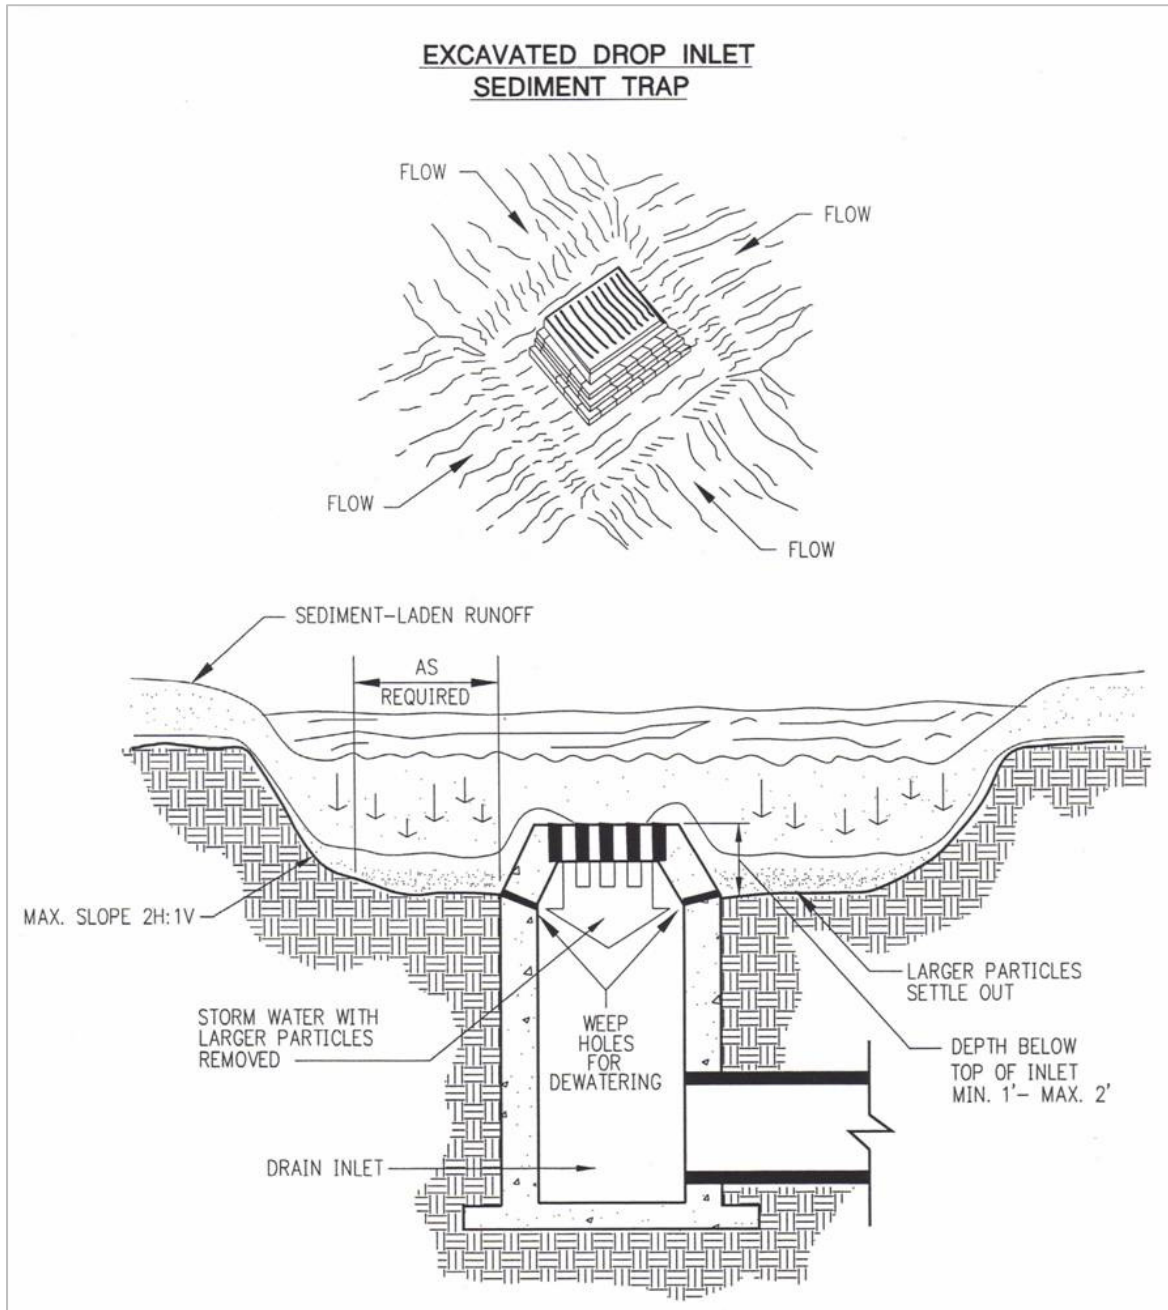

Figure B2-13: Excavated drop inlet structure for trapping sediment
- Consider excavating the area around the inlet or installing a rock/gravel jacket around or in front of the inlet to allow more opportunity for ponding of water (see Figures B2-13 and B2-14). This should encourage localized ponding in the immediate area of the inlet, not flooding into the roadway or other adjacent areas.